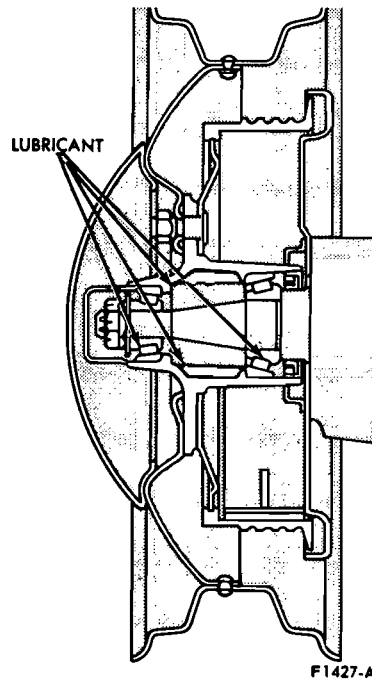

FIG. 6—Front Wheel Hub Lubrication
9. Pack the inside of the hub with specified wheel bearing grease. Add lubricant to the hub only until the grease is flush with the inside diameter of both bearing cups (Fig. 6).